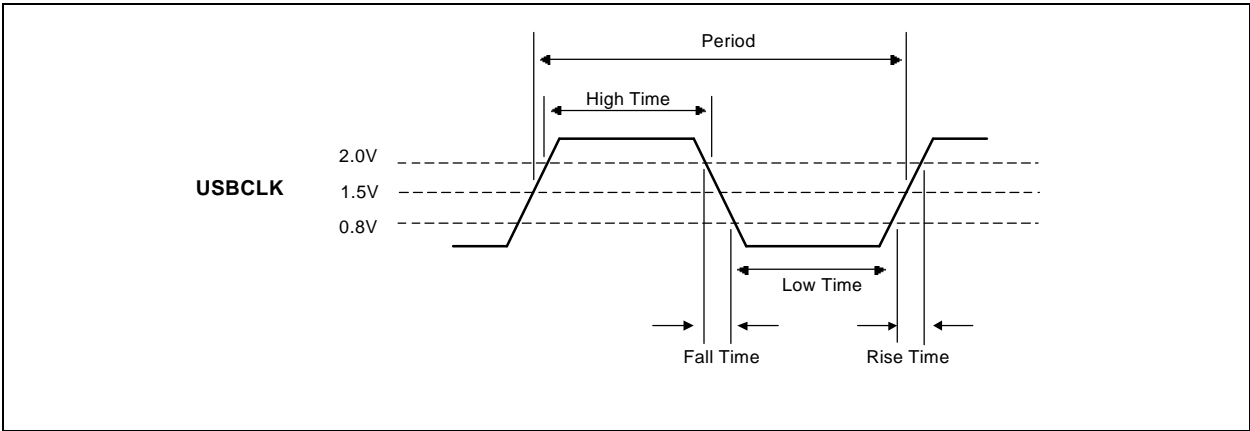

Figure 4-1. USBCLK Waveform
- 1. tUKH is measured at 2.0V as shown in Figure 4-1.
- 2. tUKL is measured at 0.8V as shown in Figure 4-1.